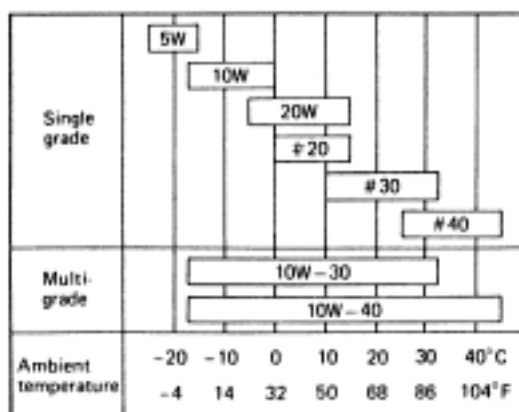

Figure 12: Oil Viscosity Grade-to-Temperature Recommendations
- (1) Use Honda 4-stroke oil, or use an equivalent high detergent, premium quality motor oil certified to meet or exceed U.S. automobile manufacturer's requirements for Service Classification SG, SF. Motor oils classified SG, SF will show this designation on the container.
- (2) SAE 10W/30 is recommended for general, all-temperature use.
- (3) Other viscosity grades shown in Figure 12 may be used when the average temperature in your area is within the indicated range.